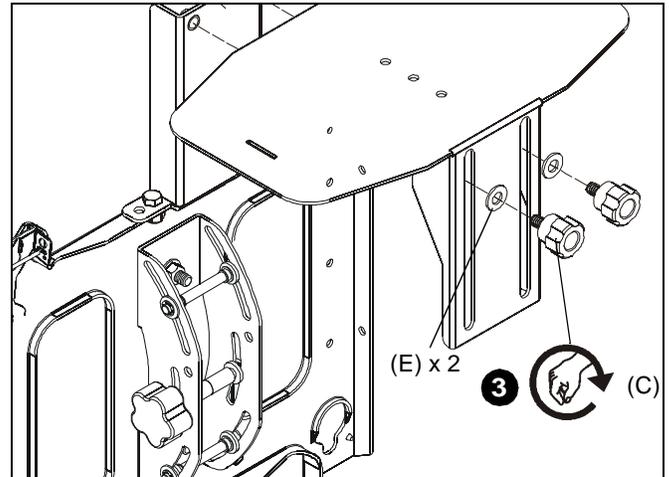

Figure 3
- Using two thumb knobs (C) and two 5/16" flat washers (E), secure the shelf (A) to the height-adjustment plate (B). (See Figure 3)